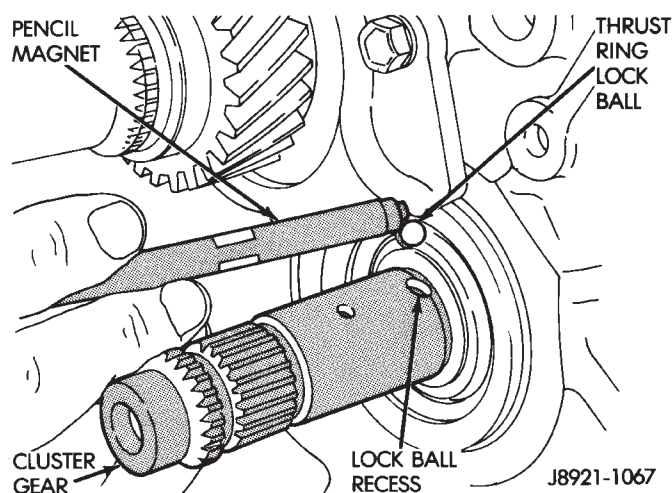

Fig. 95 Install Fifth Gear Thrust Ring Lock Ball
(26) Install the fifth gear thrust ring lock ball into the countershaft (Fig. 95).